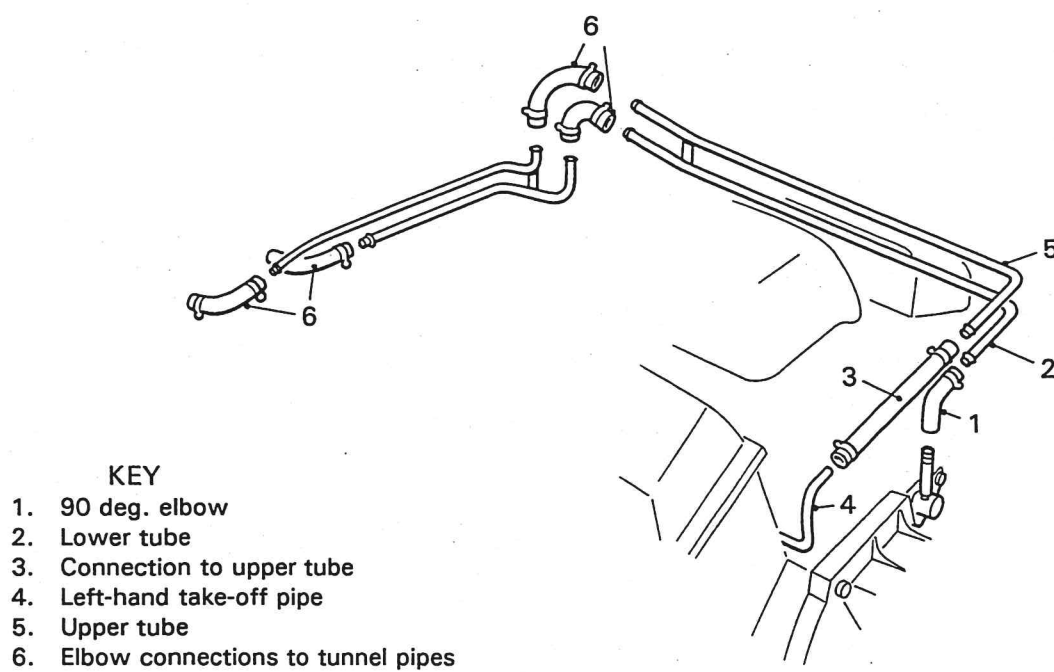

Fig. 3 Rear of Engine - Heater System Take-off Pipes
1. On the rear of the engine (Fig. 3) locate the two coolant take-off pipes for the heater system, one on the left side the other on the right (facing towards the front of the car). Remove the rubber hose and the pipe from the right side and discard the hose.
6. Fit a 90 deg. elbow (1) to the pipe from the right-hand take-off pipe and connect to the lower tube (2) on the side of the engine using jubilee clips.
7. Cut 330mm of 16mm inside diameter rubber pipe (3) and connect it to the left-hand take-off pipe (4) at one end and to the upper tube (5) at the other.
8. Pipes are then run down from the forward end of the engine heater tubes to the tunnel and using 90 deg. elbows (6) connected to the pipes already installed through the tunnel using jubilee clips.